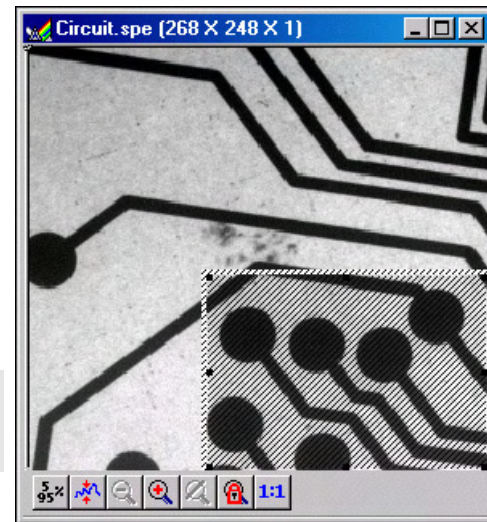

Figure 104. *Circuit.spe* with Region Selected for Viewing
1. Using the mouse, position the cursor at one corner of the region to be defined, depress the left mouse button, drag the cursor to the diagonally opposite corner, and release the mouse button. Refer to Figure 104.